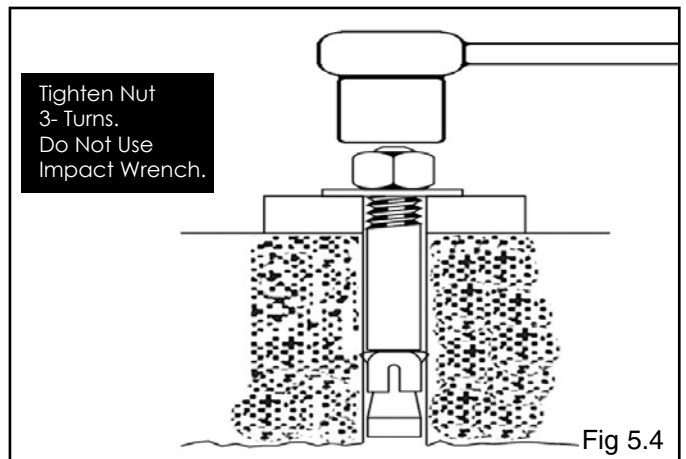

Fig 5.4
6. With the shims and anchor bolts in place, tighten by securing the nut to the base then turning 3-5 full turns clockwise. **DO NOT** use an impact wrench for this procedure. (See Fig. 5.4)